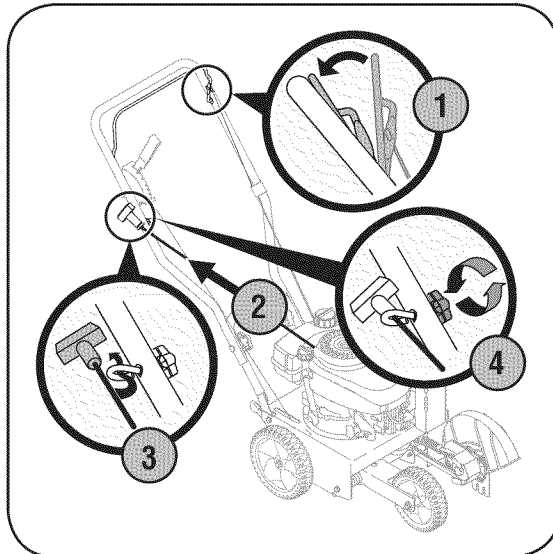

Figure 2
2. Depress the blade control at the top of the upper handle and pivot the upper handle upward until it snaps into place (1).
3. Tighten the hand knobs, which are located on both the left and right sides of the handle (2). See Figure 2.
2. Loosen, but do NOT remove, the wing knob which secures the rope guide to the upper handle. See Figure 2.
3. Stand behind the unit and hold the blade control against the upper handle (1) and gently pull the starter rope out of the engine (2).
NOTE: The starter rope will not pull out of the engine unless the blade control (*refer to Figure 2*) is depressed against the upper handle.